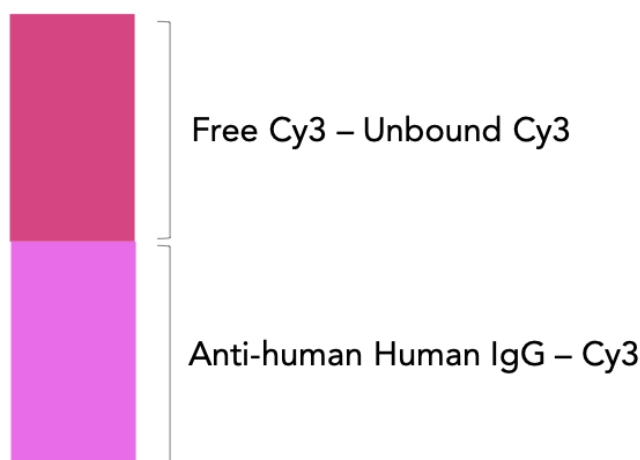

Figure 1 Distinct fraction between IgG-Cy3 and unbound Cy3
- Start collecting the liquid as soon as it starts to become light pink in colour (Figure 1). Collect fractions of 0.5 mL volume in each 1.5 mL Eppendorf tube. Stop collecting fractions once the pink colour gets darker. Keep the fractions on ice until all the PD-10 columns have been eluted (If it involves more than one PD-10 column).